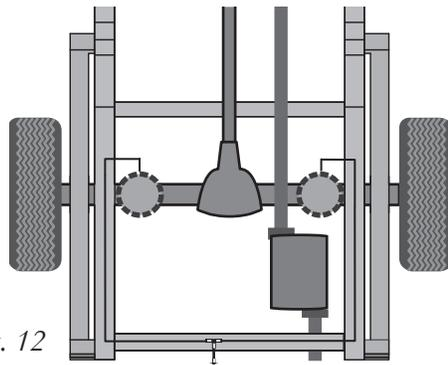
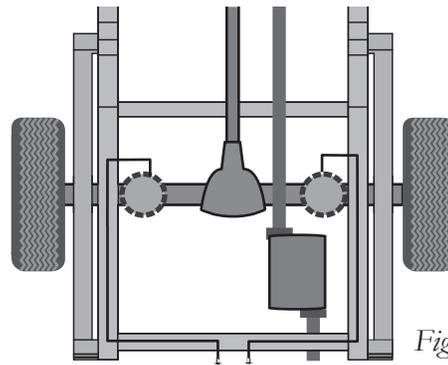

Fig. 12
Fig. 13
1. A single-path air line installation is recommended for vehicles that typically have even weight distribution (Fig. 12). If weight in the vehicle varies from side to side and unequal pressures are needed to level the load, use a dual-path installation. For dual-path air line installations, eliminate the tee fitting (K) and route separate air lines for both air springs (Fig. 13).